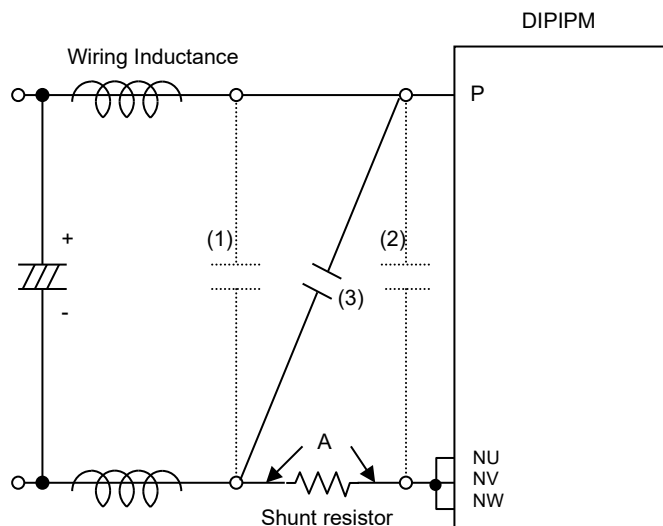

Fig.3-1-8 Recommended snubber circuit location
There are two positions ((1) or (2)) to mount a snubber capacitor as shown in Fig.3-1-8. Snubber capacitor should be installed in the position (2) so as to suppress surge voltage effectively. However, the charging and discharging currents generated by the wiring inductance and the snubber capacitor will flow through the shunt resistor, which might cause erroneous protection if this current is large enough.